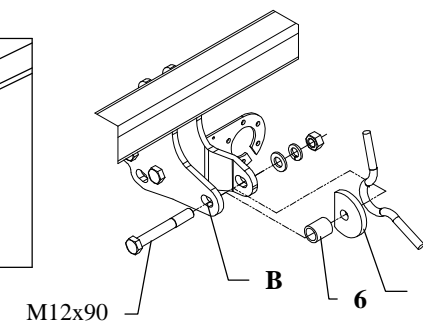

Fig. 3. Rear view
5. Through hole (pos. B) of the towbar fix with original towing eye – use truncate washer (pos. 7), distance sleeve  $\varnothing 21\text{mm}$ , L=25mm (pos. 6) and bolt M12x90mm (pos. 8) – see figure 3.
6. Fix tow-ball (pos. 2) with socket plate (pos. 3) using bolts M12x75mm (pos. 9) from accessories.